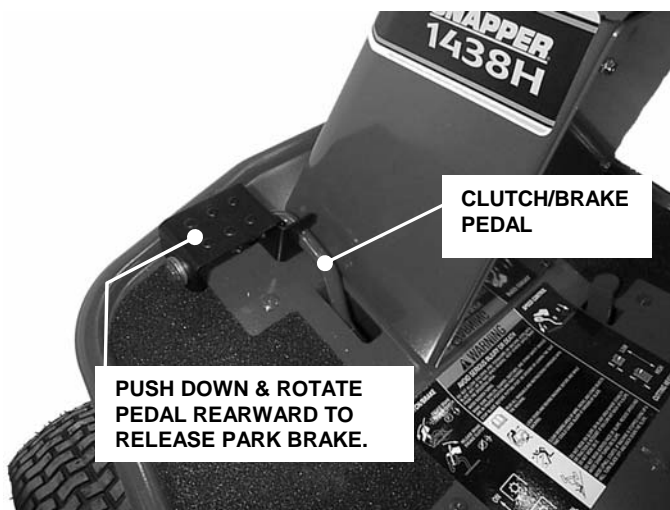

FIGURE 2.15
2. Release park brake by pushing down on the clutch/brake pedal and rotate pedal rearward to the unlock position and release the pedal. See Figure 2.15.